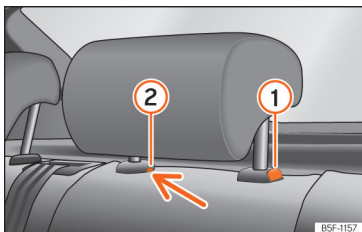

Fig. 97 Rear head restraint: removal.
- Press button >>> Fig. 97 ①, while simultaneously pressing on the safety hole ② with a flat screwdriver a maximum of 5 mm wide, and remove the headrest.